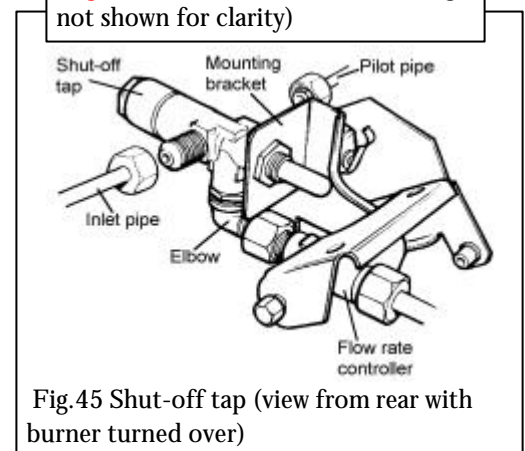

Fig. 45 Shut-off tap (view from rear with burner turned over)
14.10 TO REMOVE THE SHUT-OFF TAP (See figure 45)